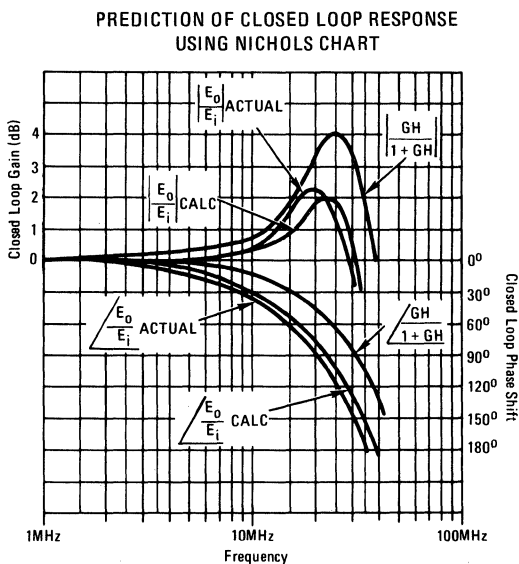

Figure 8
- (4) Transfer these points to semi-log paper and add the pole given by $\omega = \frac{1}{R_f C_f}$ (or $f_D = 32\text{MHz}$ for this case) to obtain the calculated closed-loop response, $(\frac{E_o}{E_i})_{CALC}$ shown in Figure 8.
- (5) Obtain Bandwidth, Peaking and closed-loop phase margin from the closed-loop response given in Figure 8.